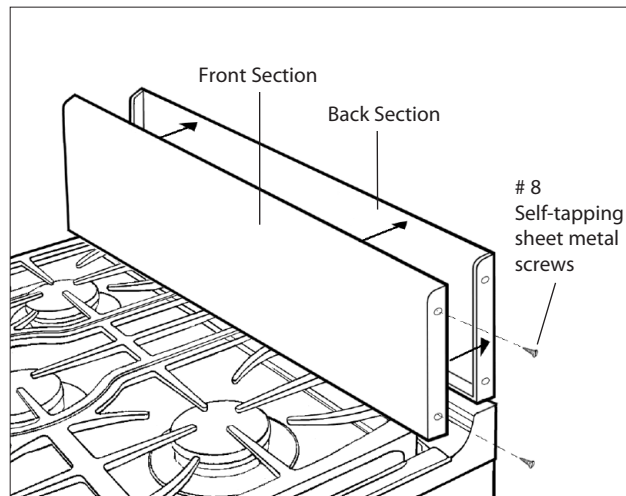

Fig.02
3. Secure Front Section of backguard to Back Section with #8 self-tapping sheet metal screws supplied (fig. 02).